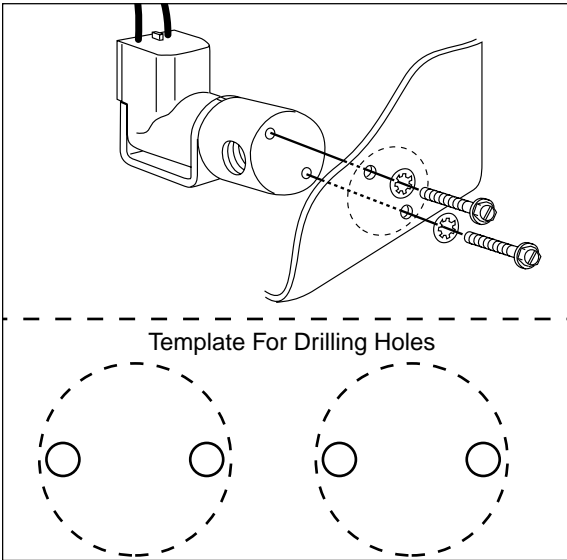

Figure 3
2. Select a convenient mounting location for the solenoid, which provides protection from the elements. Using the template provided in Figure 3, center punch the holes, remove the template, and drill two  $\frac{3}{16}$ " holes. Use the supplied hardware for solenoid mounting (Figure 3).